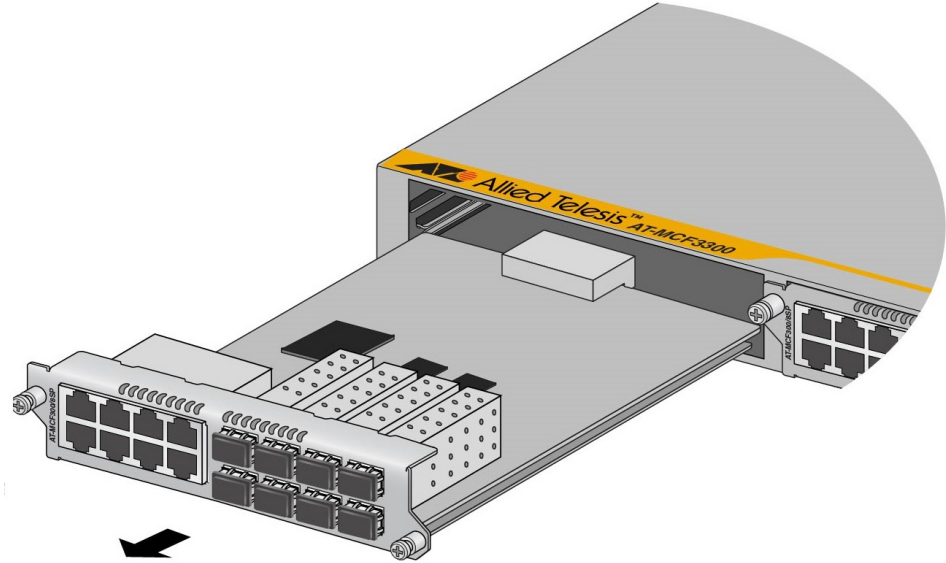

Figure 10. Sliding a Media Converter Module from the Chassis
5. Slide the module from the unit. Refer to Figure 10.